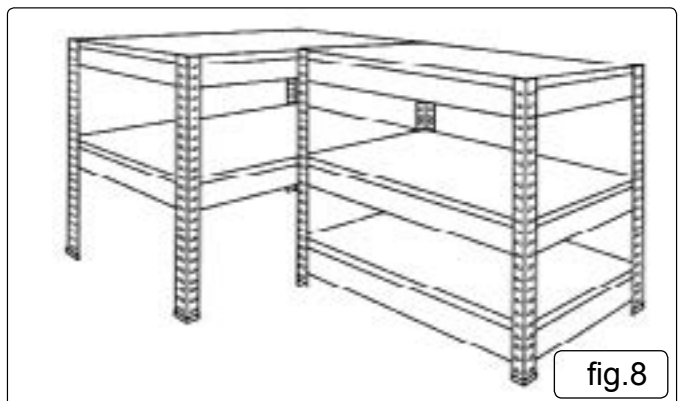

fig.8
- 5.9. See fig.8. To assemble as a corner unit make up two separate frames following steps 4.1 to 4.3 but with different shelving positions. Make up one frame with 3 shelves and one frame with two shelves as shown below. Ensure that the middle and top shelves on both frames are at the same height. Fix the frames together with the four nuts and bolts supplied. Place the 5 MDF shelves into position in the frames.